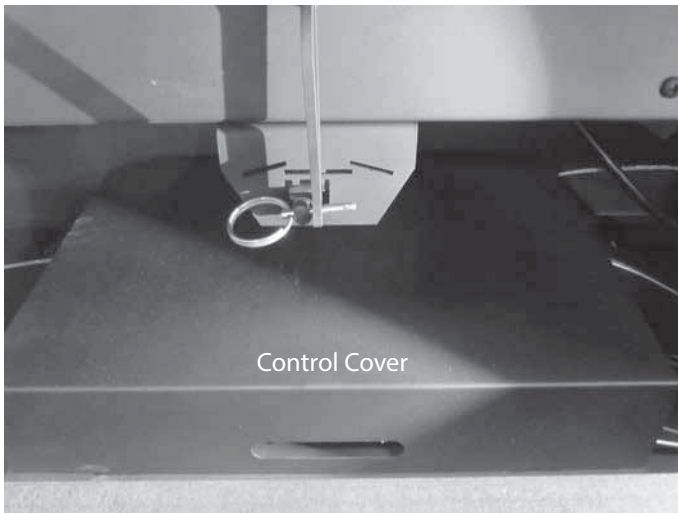

Figure 4.13 Remove Control Cover
- Lift the control cover up and out to expose the control board. See Figure 4.13.